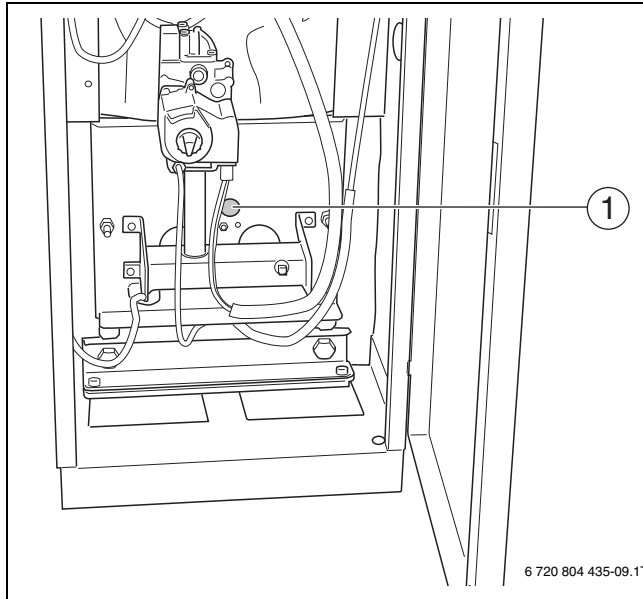
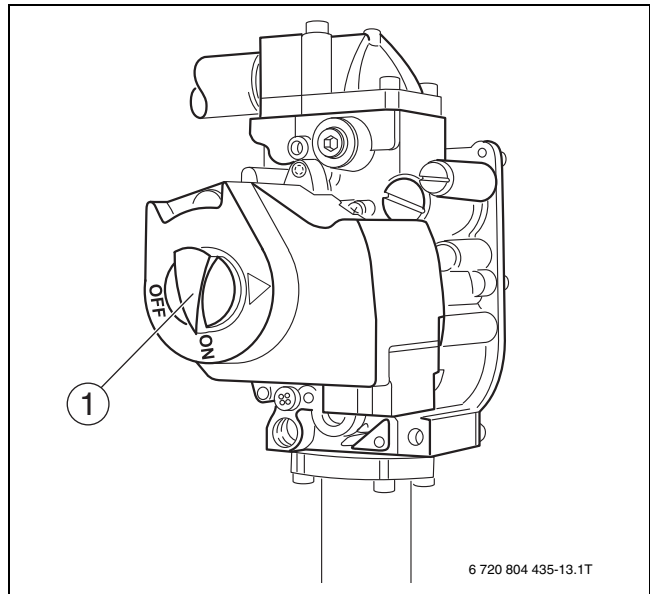

Fig. 9 GC 144 II
Fig. 13 Gas valve
- ▶ Observe main burner flame through the sight glass (→ figure 9, page 7) in the burner plate. The flame must show a steady and stable body and generally be of bluish color. If the main burner flame meets the requirements, continue with the next step. If the main burner flame is weak, yellow, or goes out, turn the ON/OFF knob (→ figure 13, page 8) on the gas valve clockwise to OFF. Close the gas shut-off and disconnect the heating system from the main power source and contact the customer service technician or the gas company.